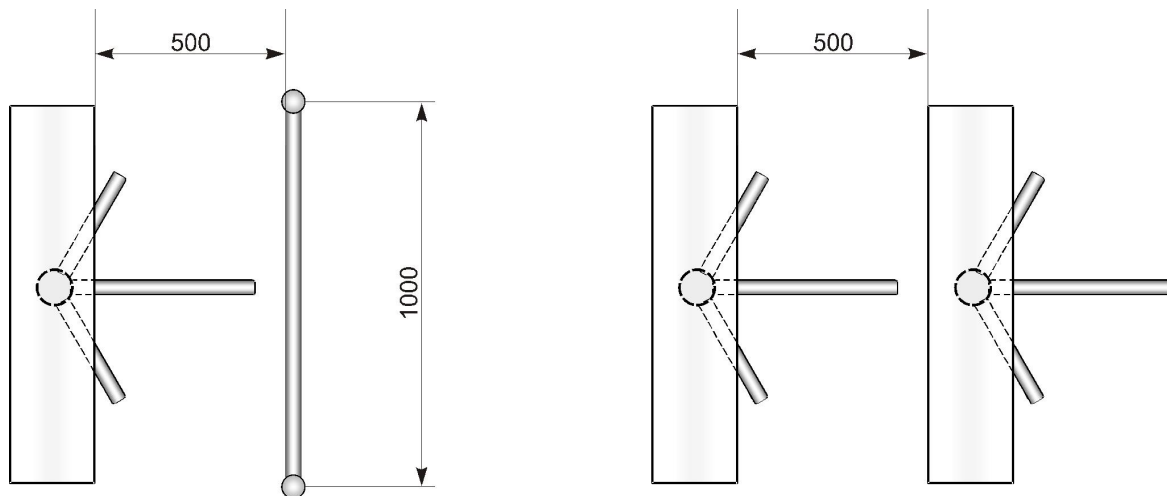

Fig. 9. Recommendations on creation of the passage area
- to organize the passage zone according Fig. 9;
To ensure accurate passage tracking when the turnstile is operated with an ACS, it is recommended to create the passage area in such a way that the barrier arm turning in the direction of movement must be at the angle of not less than 70° (Fig. 9).